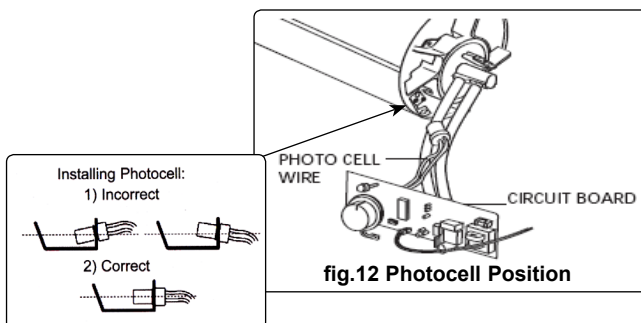

fig.12 Photocell Position
- 6.7 Flame-out device.** The AB heaters are fitted with a flame-out device (a photocell, see fig.12), which cuts the fuel supply should the flame be inadvertently extinguished, or if the unit overheats. If this happens, switch off the heater and unplug from the mains supply. Check the heater to determine the fault. In particular check that the air intake is not obstructed and that the internal fan is rotating freely. Wait a few minutes and restart the unit. If the problem persists contact your local Sealey Service Agent.